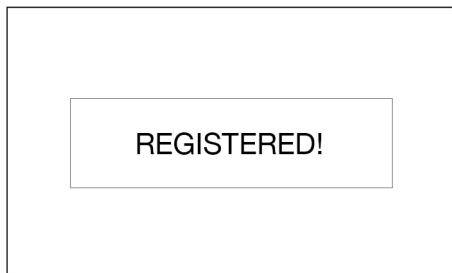

FIG. 14
6. After the metered dispense valve registers with the Pulse Fluid Management Software, REGISTERED displays (FIG. 14). The SET-UP menu screen then displays.